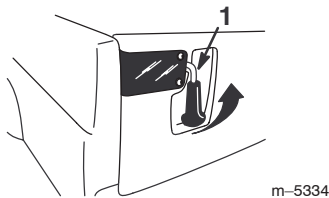

Figure 20
1. To open the tailgate latches, lift the latch handles up (Fig. 20). The latches will spring out toward the center of the tailgate. Slowly lower the tailgate.